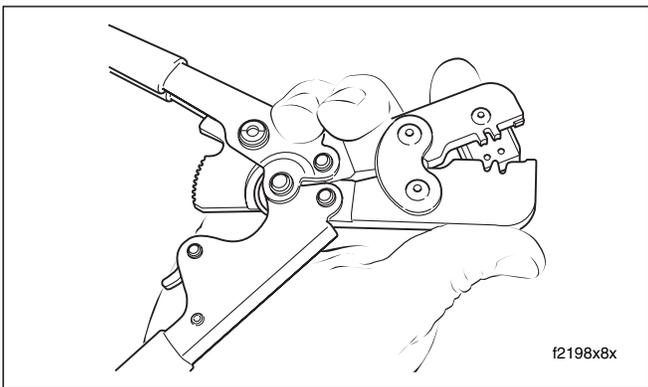

Figure B-30. Raise Locking Bar and Barrel Holder
5. Raise locking bar and barrel holder by pushing up on bottom tab with index finger. See Figure B-30.